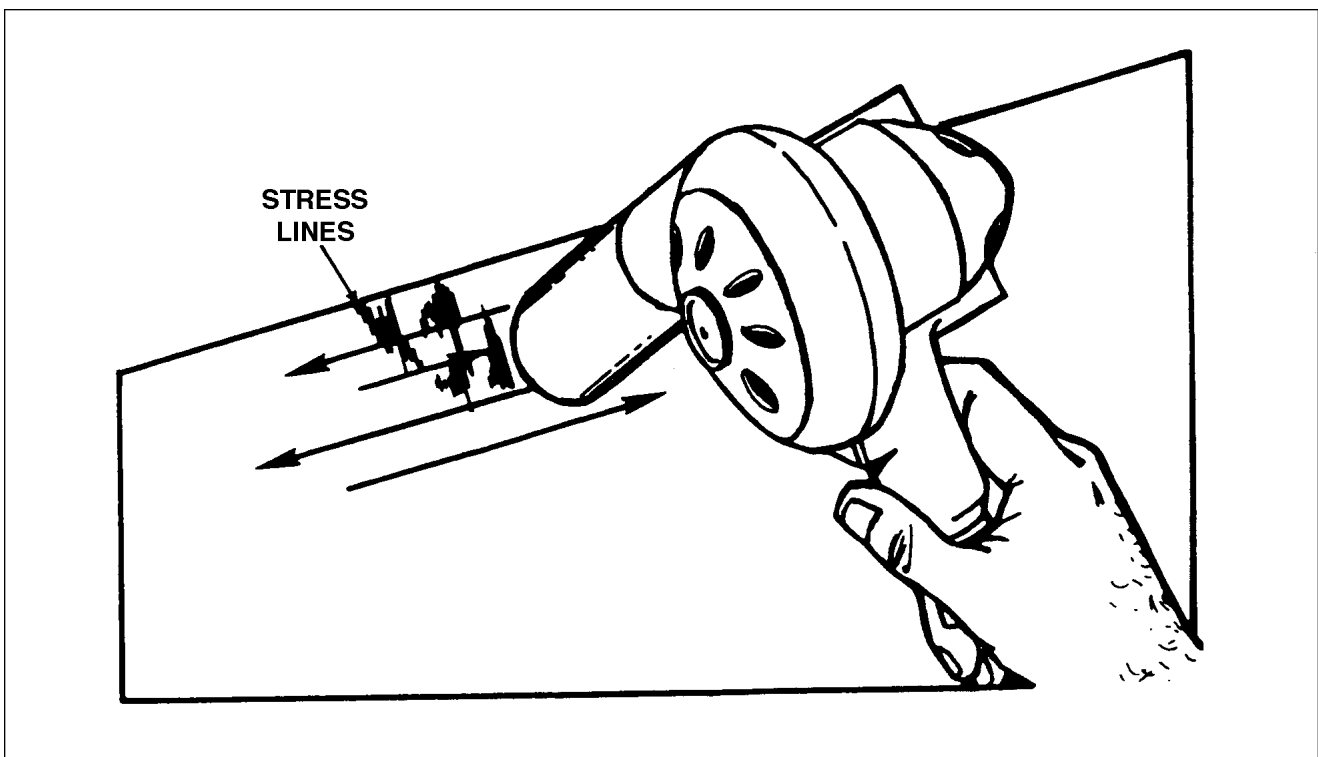

Figure 4-20. Repair of Stress Lines
f. Stress lines: (Refer to Figure 4-20)